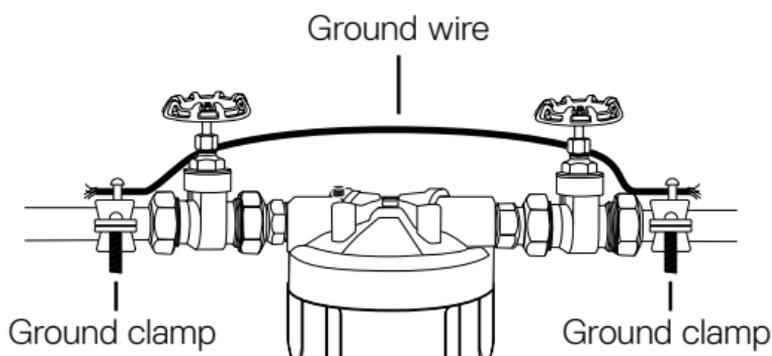

Figure 3
- When installing on metallic plumbing: Securely install two grounding clamps and a #4 copper wire across the location where the system will be installed, tightly clamping it at both ends as shown in figure 3.”